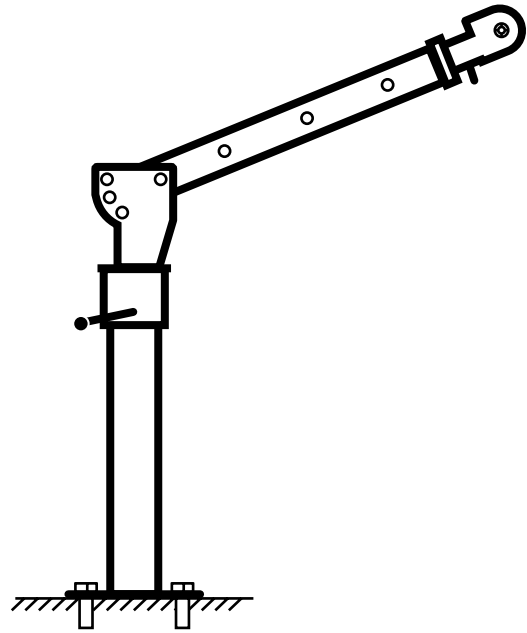

Fig. 3
3. Install and secure the boom as shown on (Fig.3)